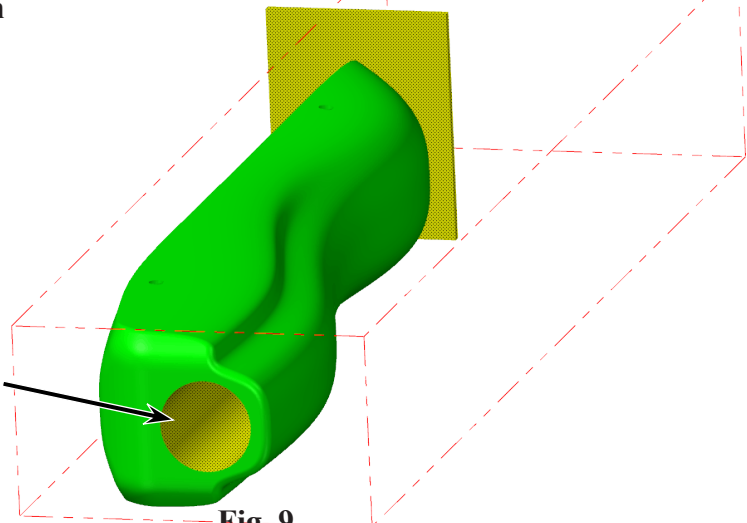

Fig. 9
Step 6. Rotate view to view **rear surface**, hold down middle mouse button (wheel) and drag to rotate view, **Fig. 9.**
Step 7. Click **cartridge hole cylindrical surface** to select as avoidance geometry and click **End Selection** (ENTER), **Fig 9.**